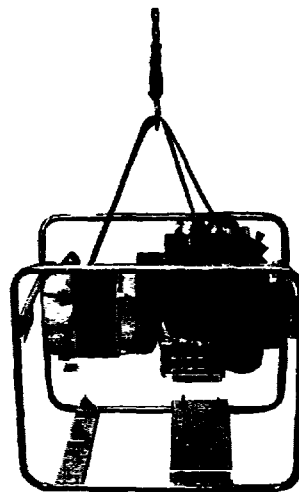

Fig. 10-8
(4) Remove the generator. (See Fig. 10-8.) Lift the generator with a chain block, and remove the frame.	Be careful of the genera- tor balance.
(5) Remove the rubber mount. RGX405, RGX405D, RGX505, RGX 505D: Remove the nuts that fasten the engine base and rubber mount. Twist the rubber mount and take it off.	Rubber mount is fastened with the nuts welded to the bottom of the frame.	13 mm spanner or box spanner